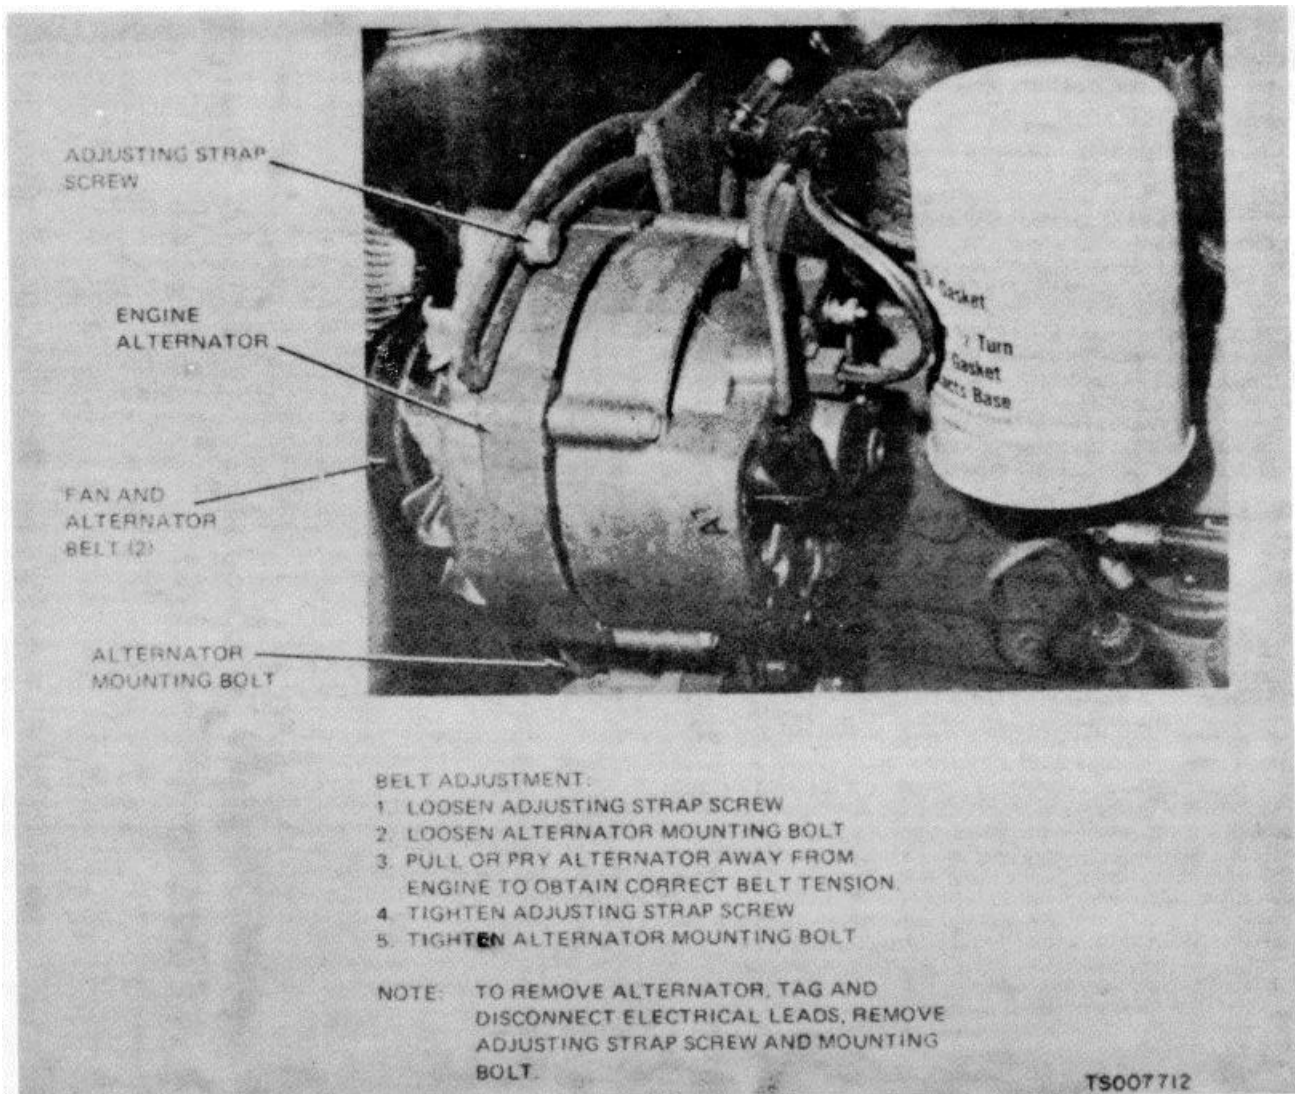

Figure 4-39. Fan and Alternator Belt Adjustment and Replacement, and Alternator Replacement
(2) Install the upper hose and the bypass hose.
*a. Adjustment.* The fan and alternator belts must be tightened so that they can be deflected between 3/4 and 1 inch at a point midway between the crankshaft pulley and the fan drive pulley. If necessary, adjust the belts as shown in figure 4-39.
(1) Loosen the adjusting strap screw (fig. 4-39) that secures the adjusting strap to the alternator. Push the alternator toward the engine to relieve all belt tension.
(2) Slip the belts from the pulleys and over the fan to remove them.
(3) Slip the new belts over the cooling fan